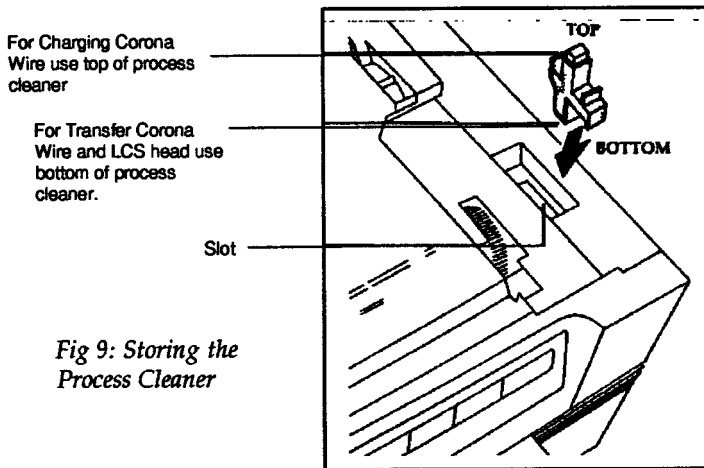

Fig 9: Storing the Process Cleaner
3. Store the process cleaner in its slot so that it is readily available when required (see fig.9).